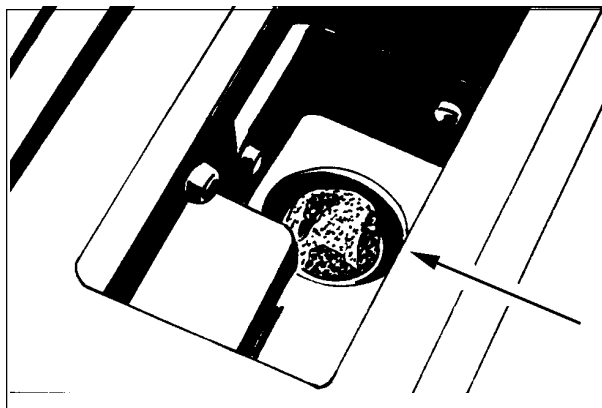

Figure 9
10. Inspect and clean the filter screen in the bottom of the solution tank. See figure 9. To remove the filter screen, turn the filter counterclockwise. To install the filter, turn the filter clockwise.